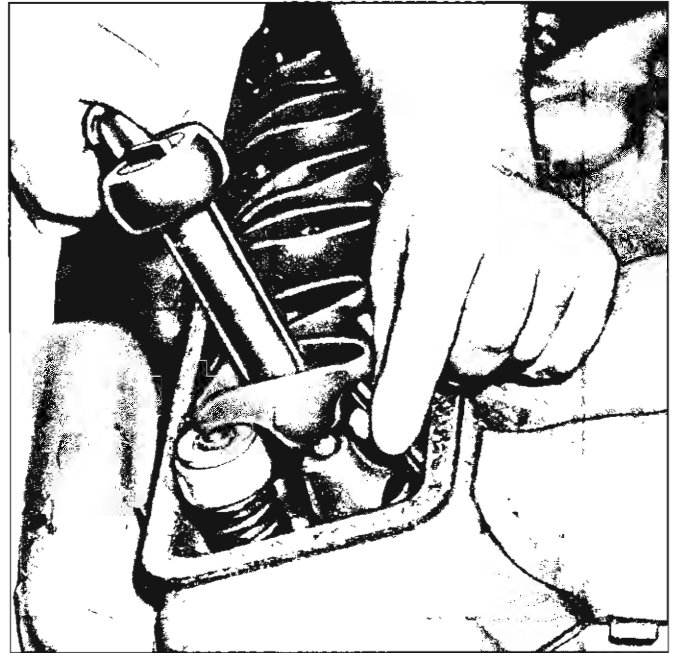

Fig. 61—Adjusting Valve Lash
- b. Valve adjustment is made by backing off the adjusting nut (rocker arm stud nut) until there is play in the valve push rod and then tightened to just remove all push rod to rocker arm clearance. This may be determined by rotating push rod with fingers as the nut is tightened (fig. 61). When rod does not readily move in relation to the rocker arm, the clearance has been eliminated. The adjusting nut should then be tightened an additional 1 turn to place the hydraulic lifter plunger in the center of its travel. No other adjustment is required.